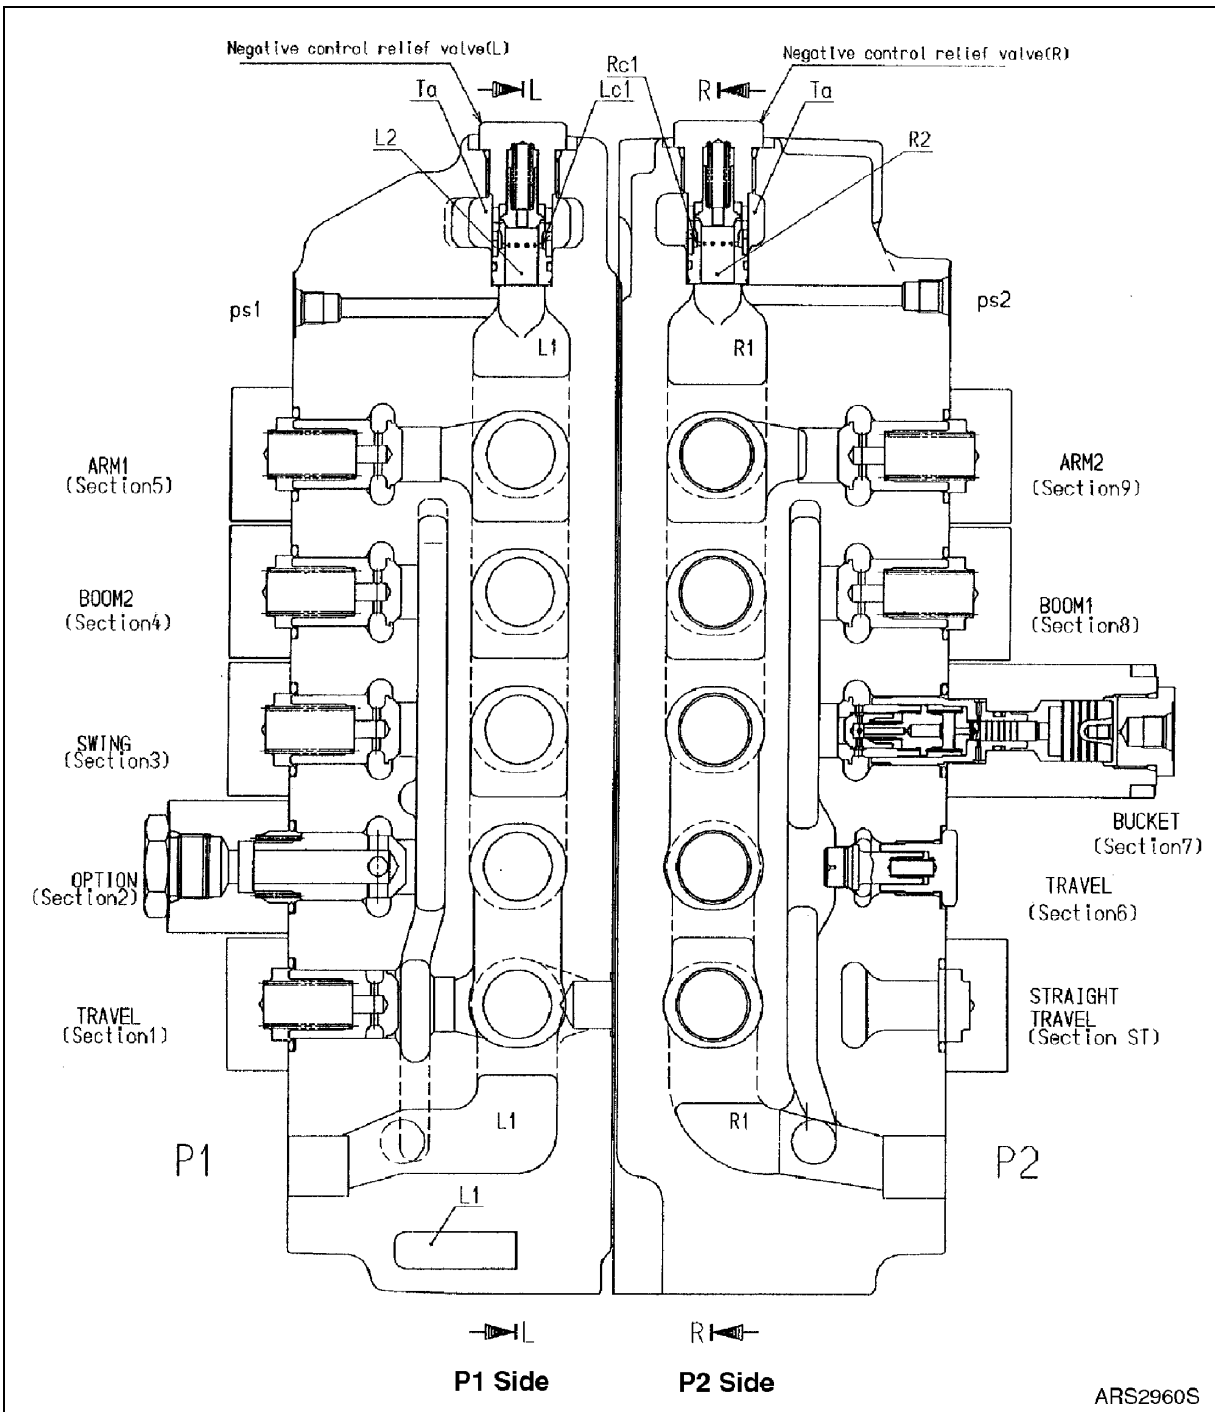
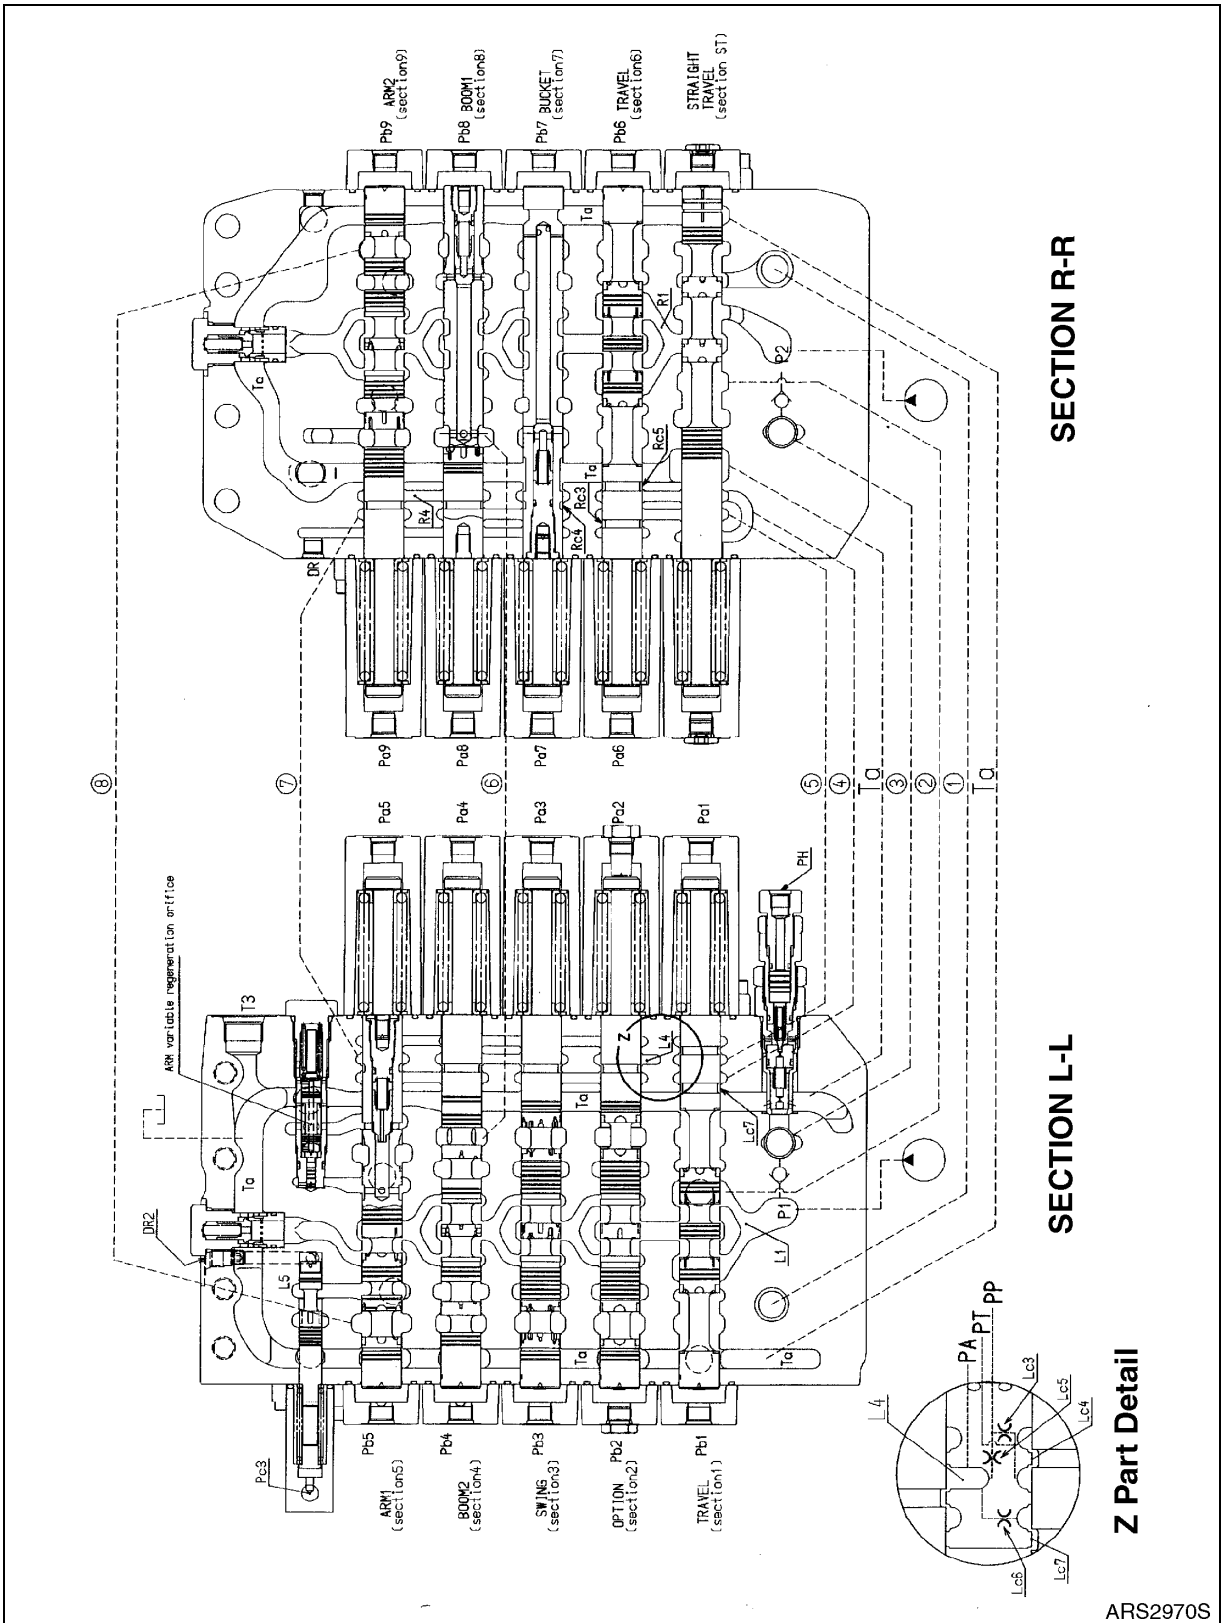
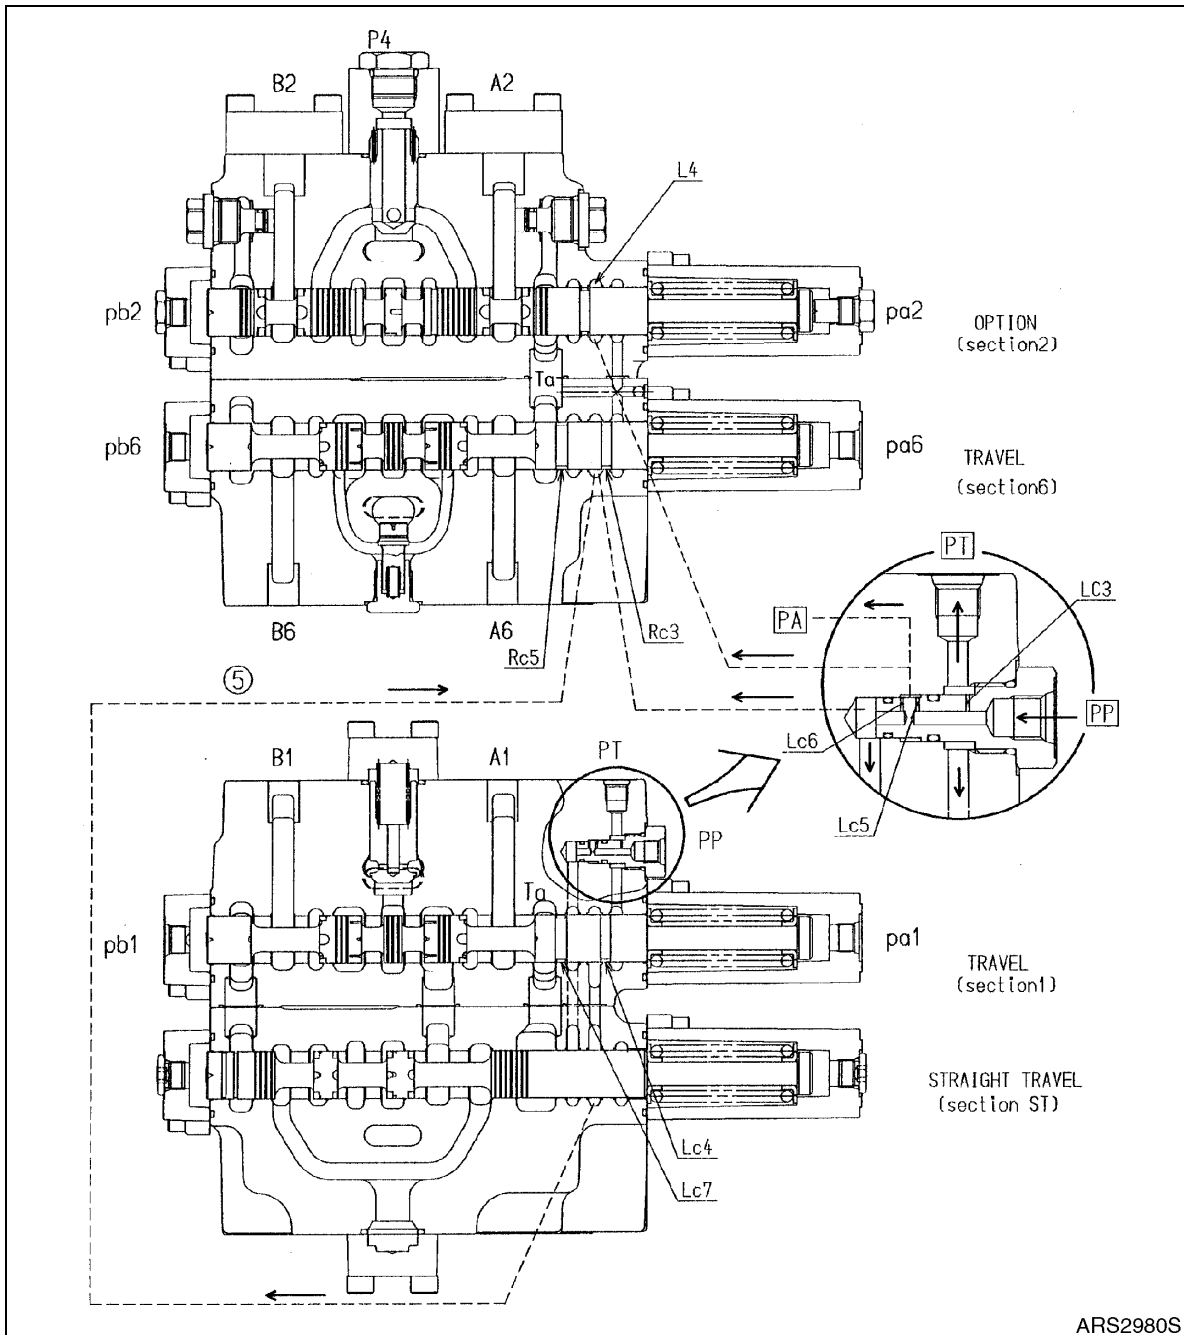

Figure 1
Figure 2
Figure 3
Oil supplied to port (P1, Figure 1 and Figure 2) flows through neutral passage (L1) to low pressure relief valve orifice (Lc1), to tank passage (Ta) and returns to ports (T1, T2, and T3).
1. Oil supplied to port (PP, Figure 2 and Figure 3) flows through orifice (Lc3) to port (PT) and simultaneously flows through land (Lc4), passage (5), and land (Rc3) into tank passage (Ta).
2. The same oil supplied to port (PP), then flows through orifice (Lc5) into port (PA), and it also flows through passages (L4)(7) and (R4) to bucket spool land (Rc4) and then flows into drain passage (DR).
3. The oil passing through orifice (Lc6) flows through land (Lc7) to tank passage (Ta) or flows through passage (4) to travel spool land (Rc5) and then flows into tank passage (Ta).
The orifice, that is installed in parallel passage for arm 1, controls arm speed when operating in a combined operation. Oil supplied from parallel passage (L3, Figure 14) of arm 1 (section 5) pushes open poppet (S5-3). It then flows through orifice (Lc8) of variable orifice spool, and then is connected to passage (L5, Figure 3). From here, flow of orifice (Lc8) can be varied by increasing or decreasing pressure against pilot poppet (Pc3).